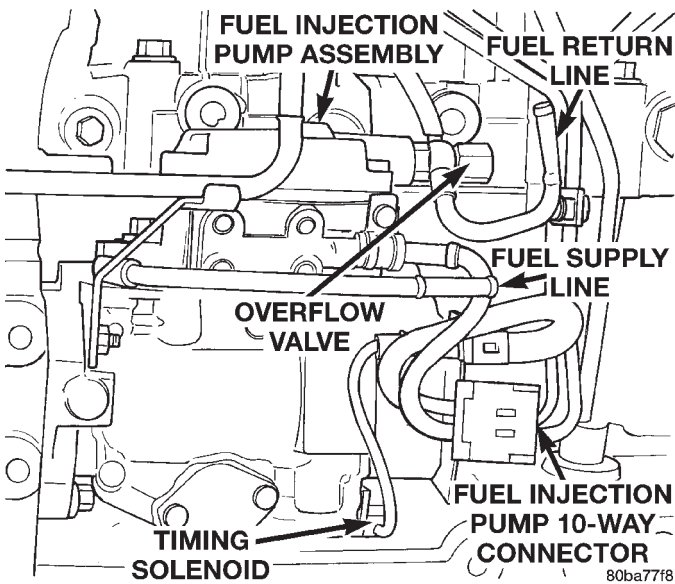

Fig. 18 Overflow Valve
(1) If the fuel injection pump has been replaced, air should be bled at the overflow valve before attempting to start engine.
- (a) Loosen the overflow valve (Fig. 18) at the rear of the injection pump.